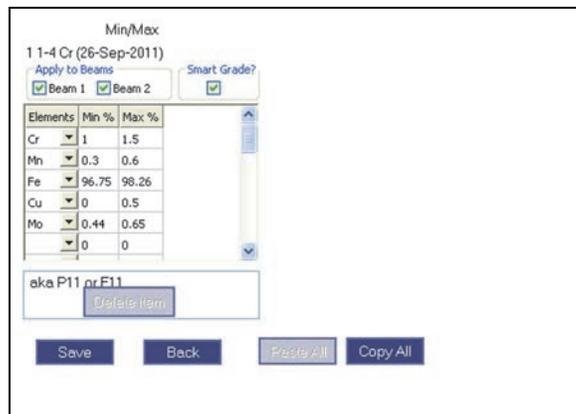

Figure 2-11 The Min/Max pane
- Click **Select** to save your selection and display the **Min/Max** pane (see Figure 2-11 on page 56).
- Select an **Elements** box to change that element (see Figure 2-11 on page 56).